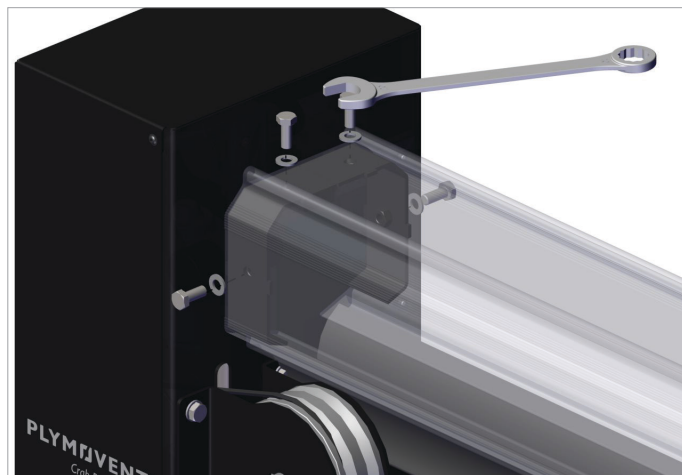

Fig. 4.3.3 Mounting the motor compartment to the rail
- Mount the motor compartment to one end of the rail and secure with 4x M8x20 bolts and 4x M8 washers using wrench 13 (0,5 in.). Refer to fig. 4.3.3.